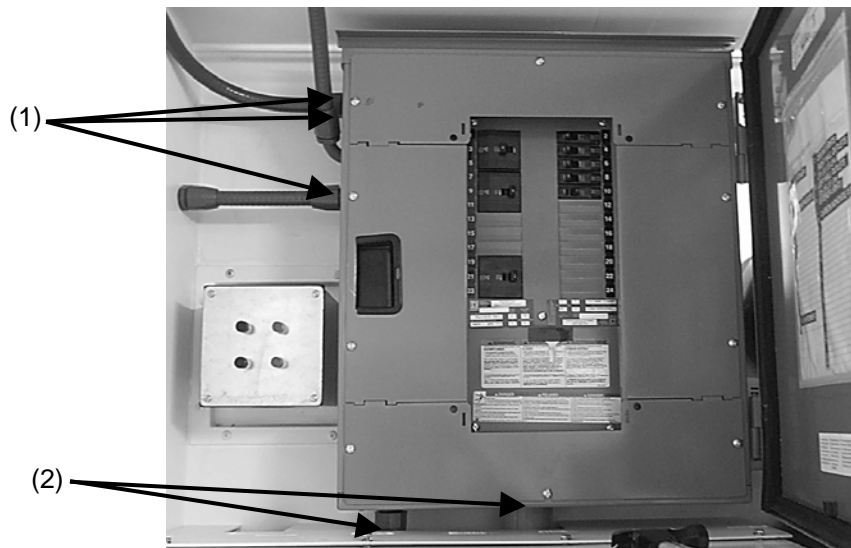

Figure 4-32. Front view of circuit breaker box and communication panel.
4. Remove three conduit nuts (1) on left side of circuit breaker box (Fig. 4-32).